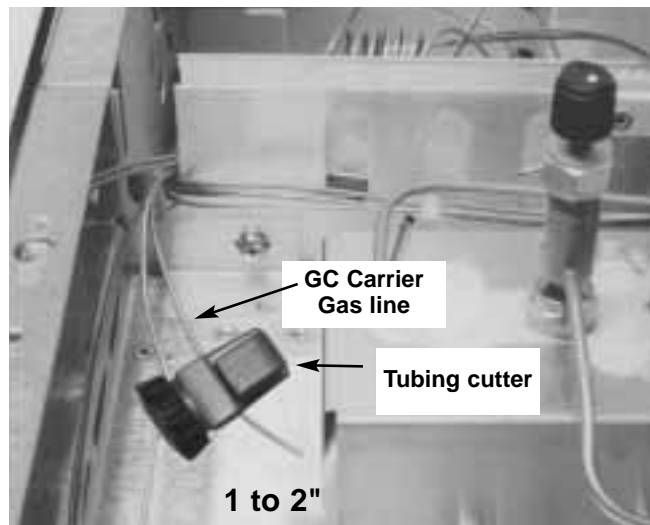
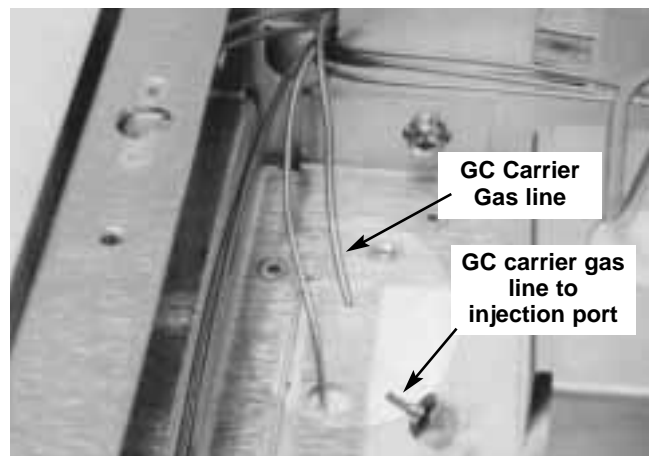

Fig 3.4 Cutting the GC carrier gas line for installation of the carrier gas solenoid valve.
Fig 3.5 The GC carrier gas line has been cut and is ready for installation of the carrier gas solenoid valve.
6. Using the tubing cutter, cut the carrier gas line approximately 1-2 inches from the injection port. See **Figure 3.4**. Be sure that both ends of the carrier gas line where you have made the cut are open and clean. If not, clean with a small needle file. **Figure 3.5** shows the carrier gas line cut.